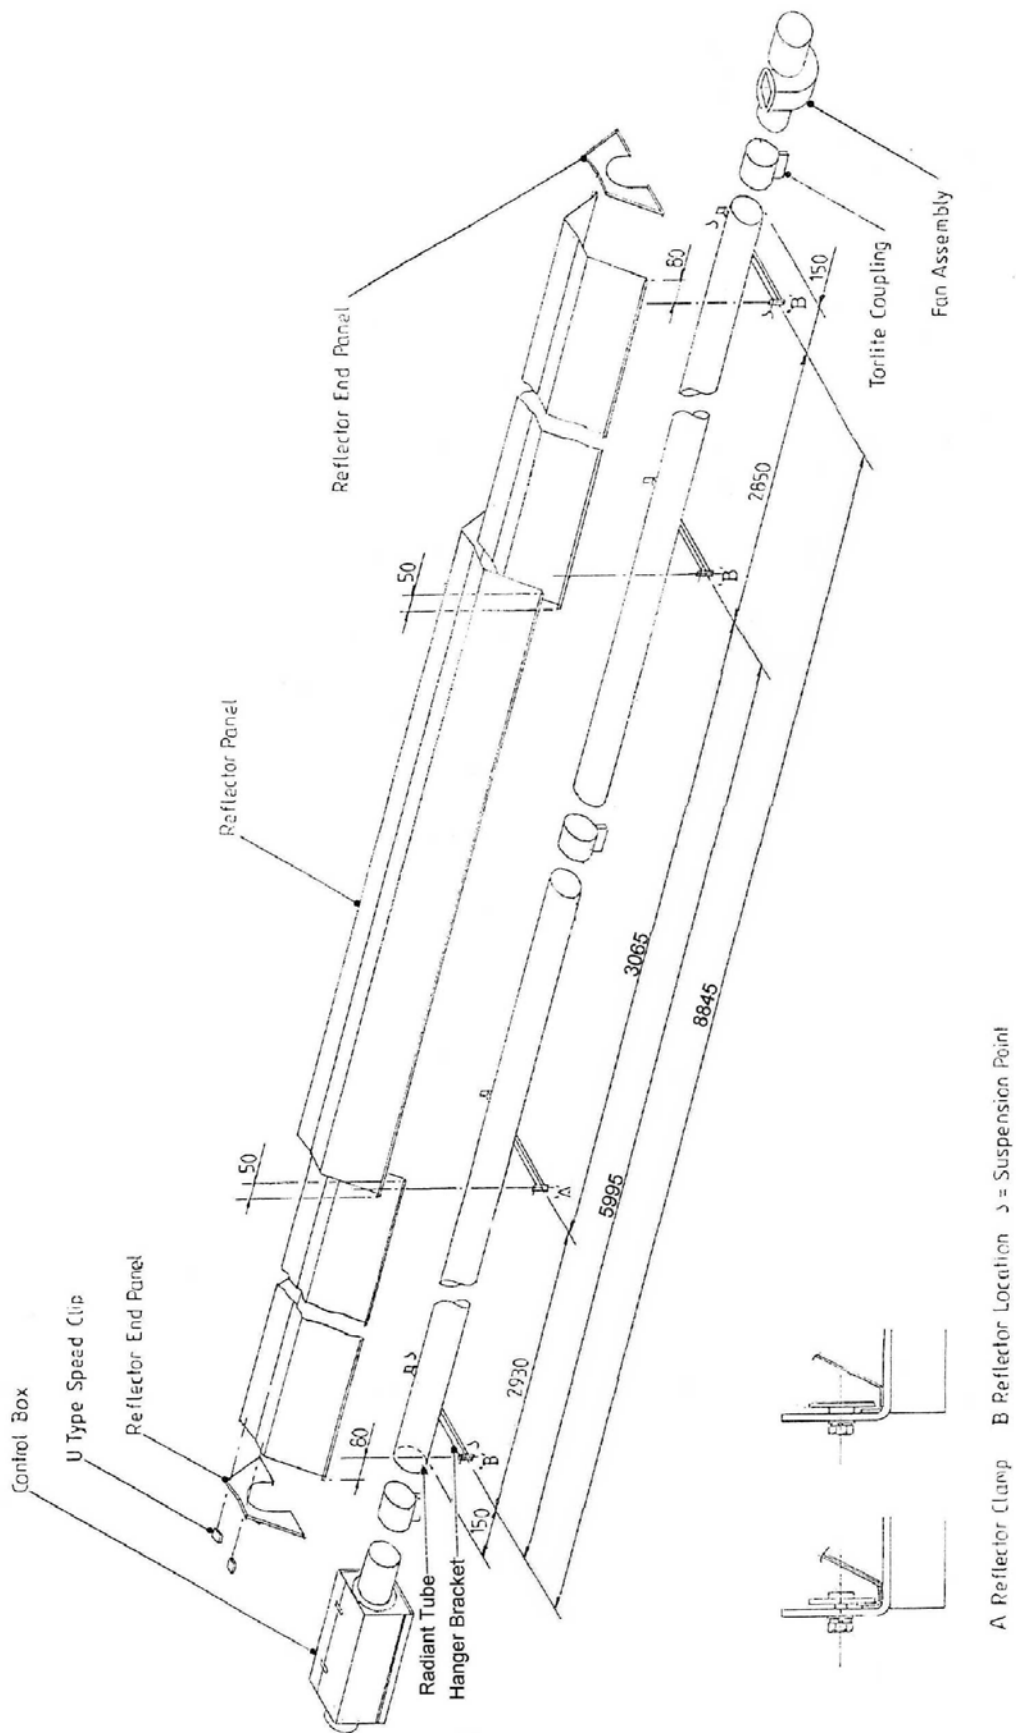
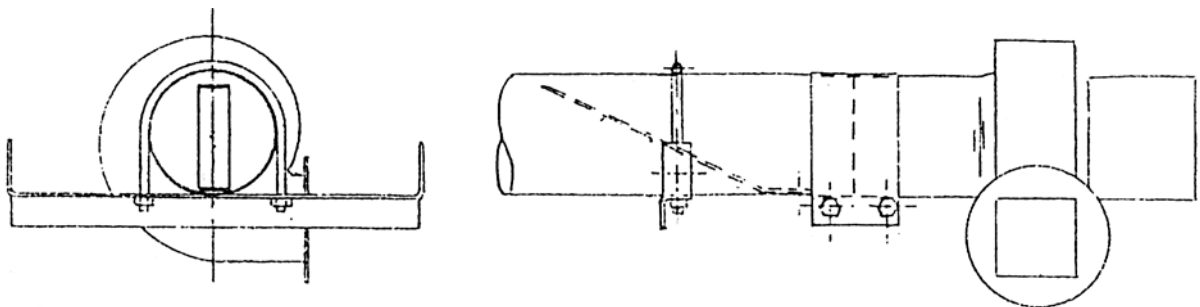

Fig. 22
Fig 23
- 4.7.2 Place the Radiant Tube and Radiant Tube Assembly (containing turbulator) on trestles, providing 150mm minimum clearance above the floor and assemble the four Hanger Brackets to the Radiant Tube and Radiant Tube Assembly, using one 'U' bolt per bracket (from fastenings pack). Position the Hanger Brackets along the Radiant Tube and Radiant Tube Assembly as shown in Fig. 22. Ensure that the welded seam of the tubes is in contact with the hanger brackets i.e. facing away from the reflector. Tighten the 'U' bolt nuts sufficiently to retain the Hanger Brackets. Do not overtighten.
IMPORTANT: ensure that the turbulator is positioned adjacent to the Fan Assembly and orientated as shown in Fig. 23. Failure to assemble the Radiant Tubes with their welded seams facing away from the reflector will void the manufacturers warranty.
- 4.7.3 Place one Torctite Coupling over the end of the Radiant Tube (see Fig. 22) ensuring that it engages fully, up to the stop. Assemble the Control Box to the Radiant Tube ensuring that it engages fully into the Torctite Coupling (up to the stop) and is positioned vertically with the door latch uppermost (see Fig. 10). Tighten the nuts of the Torctite Coupling to secure the Control Box to the Radiant Tube, taking care to support the Control Box in line with the axis of the tube.
- 4.7.4 Place a second Torctite Coupling over the end of the Radiant Tube Assembly at the end where the turbulator is secured to the tube, (see Fig. 22 and Fig. 23) ensuring that it engages fully up to the stop. Assemble the Fan Assembly to the Radiant Tube, ensuring that it engages fully into the Torctite Coupling (up to the stop) and is positioned with the fan outlet horizontal for flueless applications or either horizontal or vertical (facing upwards) for flues applications. Tighten the nuts of the Torctite Coupling to secure the Fan Assembly to the Radiant Tube, taking care to support the Fan Assembly in line with the axis of the tube.
- 4.7.5 The two sections of the appliance should now be raised and suspended from previously fixed chains or drop rods as detailed in Section 3.1, at suspension points indicated in Fig. 22. Rope or webbing slings should be used when lifting from above. If using a forklift to position the appliance sections, ensure that they are balanced on the forks prior to lifting.
- 4.7.6 Place the third Torctite Coupling over the open end of one Radiant Tube ensuring that it engages fully, up to the stop. Assemble the second Radiant Tube into the Torctite Coupling ensuring that it engages fully, up to the stop with the Hanger Brackets aligned with those of the first Radiant Tube section (see Fig. 23). Tighten the nuts of the Torctite Coupling to secure the two sections of Radiant Tube to one another, taking care to maintain the tubes in a straight line.
- 4.7.7 Place two of the Reflector Panels onto the Hanger Brackets and position their outer edges such that they overhang the outer Hanger Brackets by 80mm (see Fig. 22). Place the third Reflector Panel over the two previously positioned Reflector Panels to provide a 50mm overlap at each end. Clamp the first and second Reflector Panels, where they overlap, to the second Hanger Bracket (from Control Box end) using two retainers and M6 setscrews and washers (fastenings pack). Secure the outer end of the centre Reflector Panel to the Reflector Panel at the Fan Assembly end of the appliance using two U type speed clips (from fastenings pack) as shown in Fig. 22. Screw the remaining (6) retainers to each of the other Hanger Brackets to provide location for the Reflector Panels as shown in Fig. 22.
- 4.7.8 Position one Reflector End Panel over the Radiant Tube and into one end of the Reflector Panels with the End Panel flange flush with the end of the Reflector Panel. Secure the Reflector End Panel to the Reflector Panels by use of six 'U' type speed clips provided (fastenings Pack); 2 clips per facet of Reflector Panel, as shown in Fig. 22.